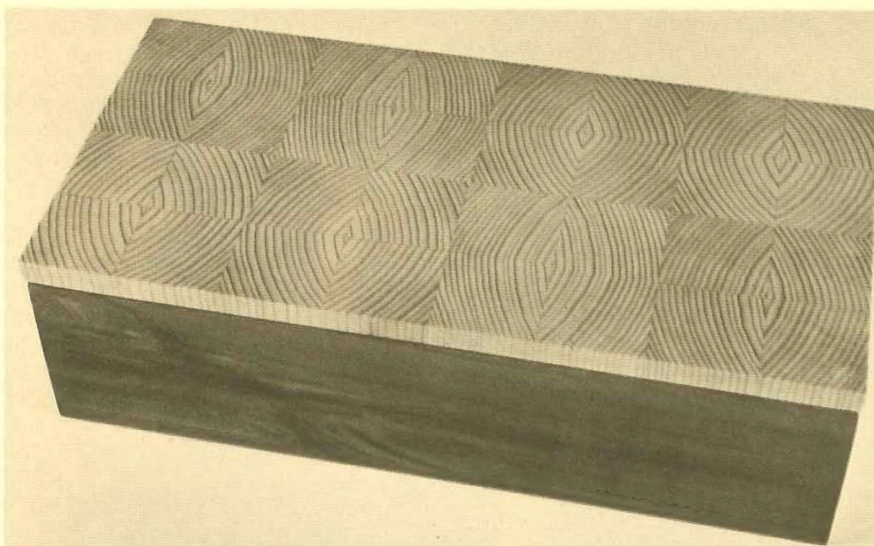
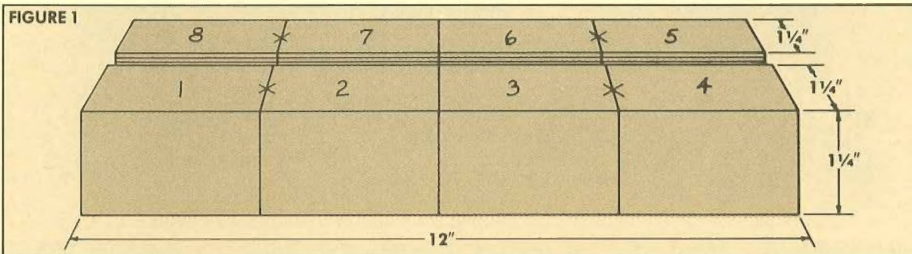

FIGURE 1
FIGURE 2
MORTISES IN LEGS. First cut a $\frac{1}{4}$ "-deep notch in both the front and back legs to accept the side rail, see Fig. 1. Then, inside this notch, through mortises are laid out, drilled, and cut square. Finally, cut stopped mortises near the bottom of the legs for the stretchers, Fig. 2.
mortise are shown in Figures 1 through 6 below. Though I'm sure there are purists who would insist that the mortise be chopped out with mortising chisels, let's face it, mortising chisels are expensive and the whole process of chopping mortises by hand is very time consuming.
STEP 2. Set the rip fence exactly 1 1/4" from the inside of the blade, and rip off two pieces 1 1/4" wide as shown in Fig. 1. Then turn each piece on edge and make a second cut so it's 1 1/4" thick. Now mark off 3 1/8" lengths on each piece and number each section to keep them in order.
STEP 3. Cut four 3"-long sections from each piece (yielding eight sections in all). These sections are 'opened' as shown in Fig. 2 to produce 'book matched' pairs.
Whenever we have to cut a whole bunch of small pieces to the same length, we use the set-up shown in Fig. 1. There is a rule when using a table saw that you should never use the miter gauge and rip fence at the same time.
The set-up shown in Fig. 2 shows this operation. However, since we were cutting a rabbet on the end of very small pieces, we added an extension fence to the miter gauge to support the piece all the way to the blade.
Although a stop block (or end block) can be used on a table saw for setting the length for cutting off small pieces, this is not a good practice on a radial arm saw. As shown in Fig. 1, we use only a pencil line on the fence to gauge the length of the cut-off.
We use the holding fixture shown in Fig. 2. A small notch is cut out of one corner of a piece of scrap that matches the size of the workpiece. The workpiece is placed in the fixture and pushed against a stop block. This procedure keeps your fingers well away from the blade, yet allows complete control during the cut.